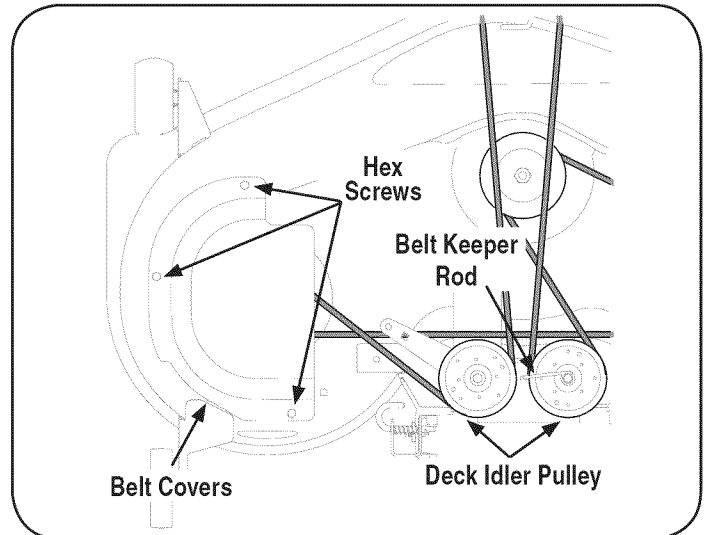

Figure 14
2. Remove the belt covers from the outer spindles by removing the hex screws that fasten them to the deck. See Figure 14.
3. Loosen, but do not remove the belt keeper rod on the pulley located near the back of the deck. See Figure 14.